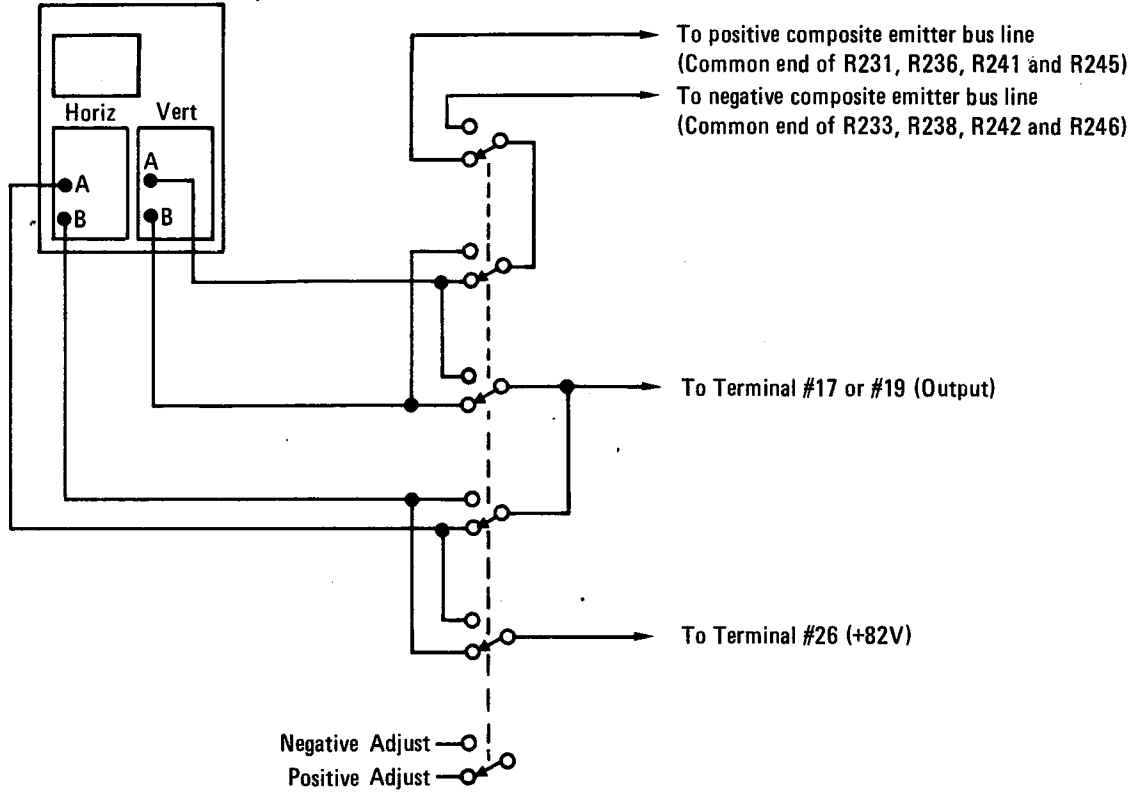
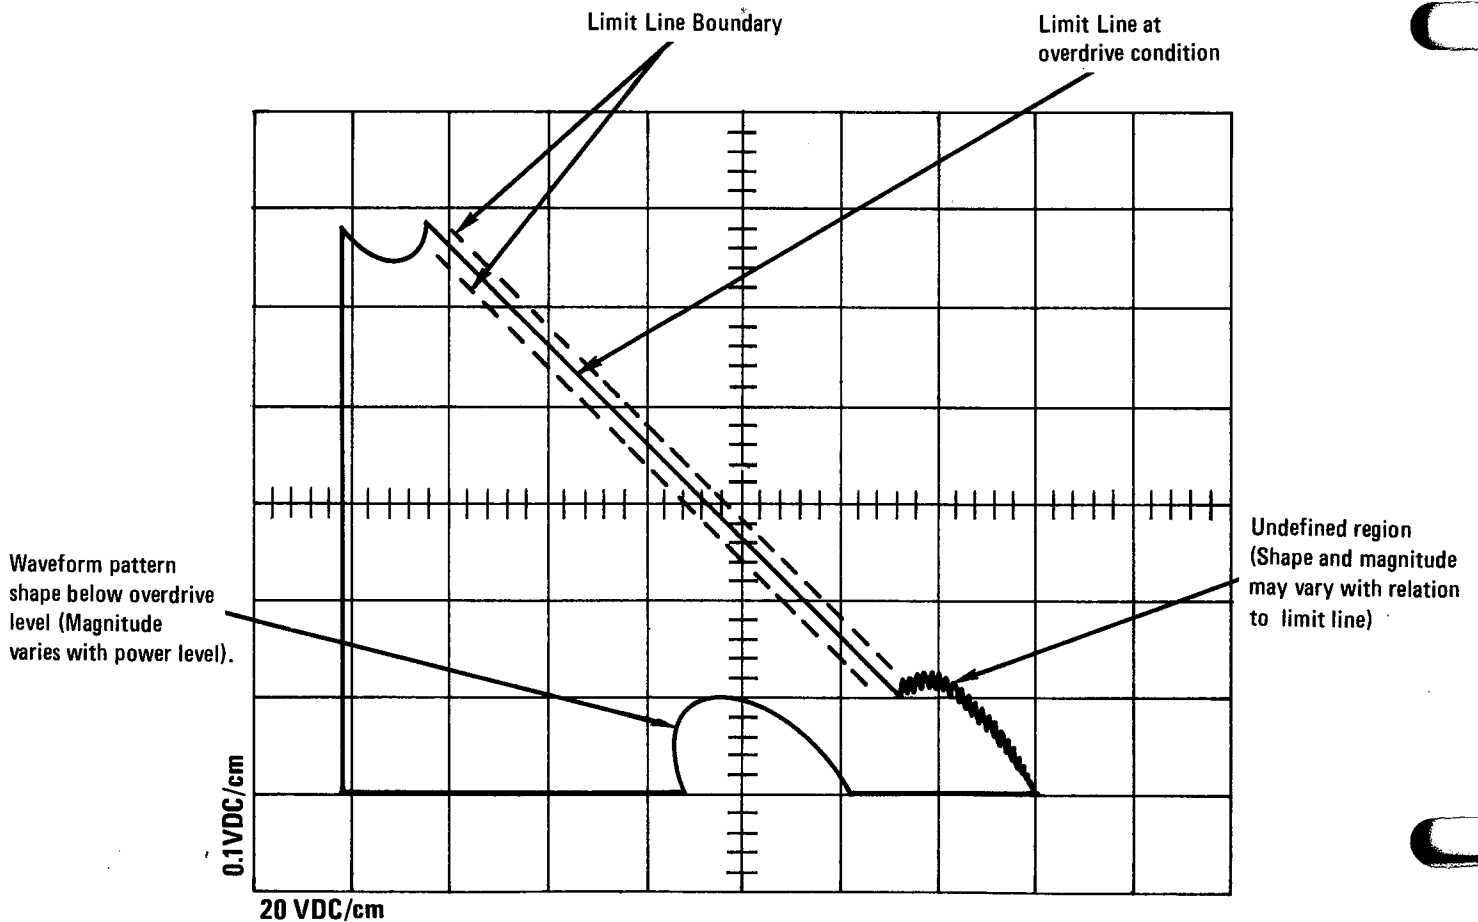

Figure 7. Oscilloscope Connection for S.O.A. Limit Adjustment
Figure 8. S.O.A. Limit Oscilloscope Display
3. With the AC power disconnected from the Model 500, connect the oscilloscope to the appropriate Power Amplifier circuit as shown in Figure 7. (Ref. Fig. 15.)
6. The pattern displayed on the oscilloscope should be as shown in Figure 8 for both positive and negative halves of the complementary output circuit. With the switch (refer to Figure 7) in the "Positive Adjust" position, adjust R209 to bring the limit line voltage within the boundaries indicated in Figure 8; with the switch in the "Negative Adjust" position, adjust R213 for the negative half limit line.